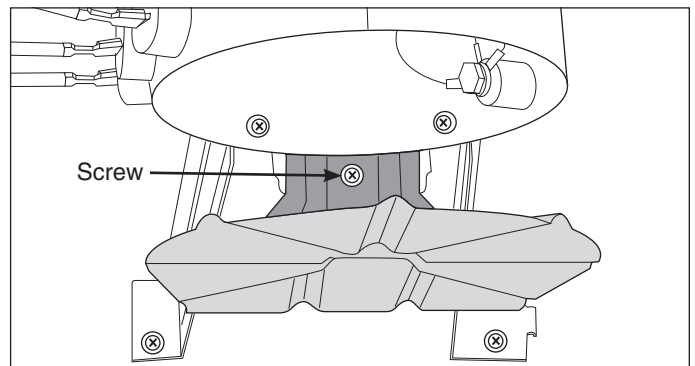

Figure 4-46.
2. Using a #2 square bit screwdriver, extract the screw securing the heat shield to the heater mounting bracket. (See Figure 4-46)